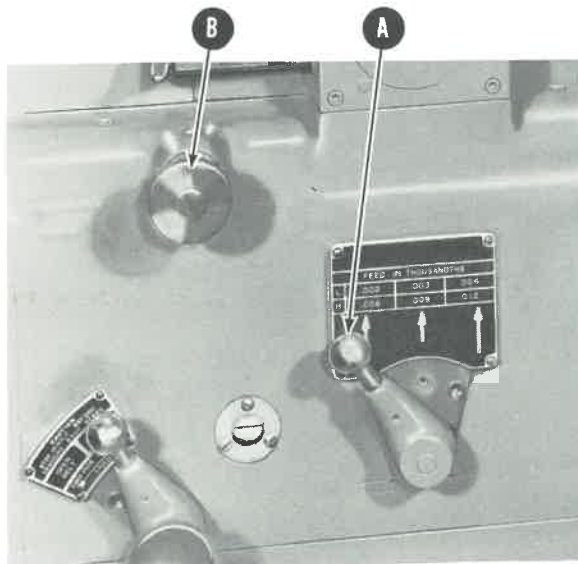

FIGURE 9. Gear Box
A simplified gear box providing 6 feeds is furnished on the manufacturing design of 10" EE. Set lever (A) Figure 9 for the column in which the required feed appears and set knob (B) for the line in which the required feed appears.